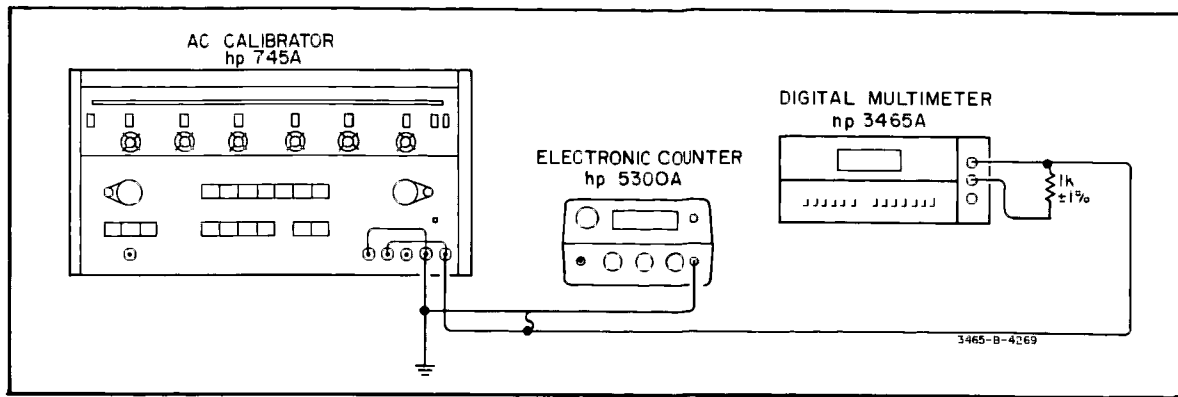

Figure 5-5. AC Effective Common-Mode Rejection Test.
- c. Connect the AC Calibrator to the Multimeter as shown in Figure 5-5.